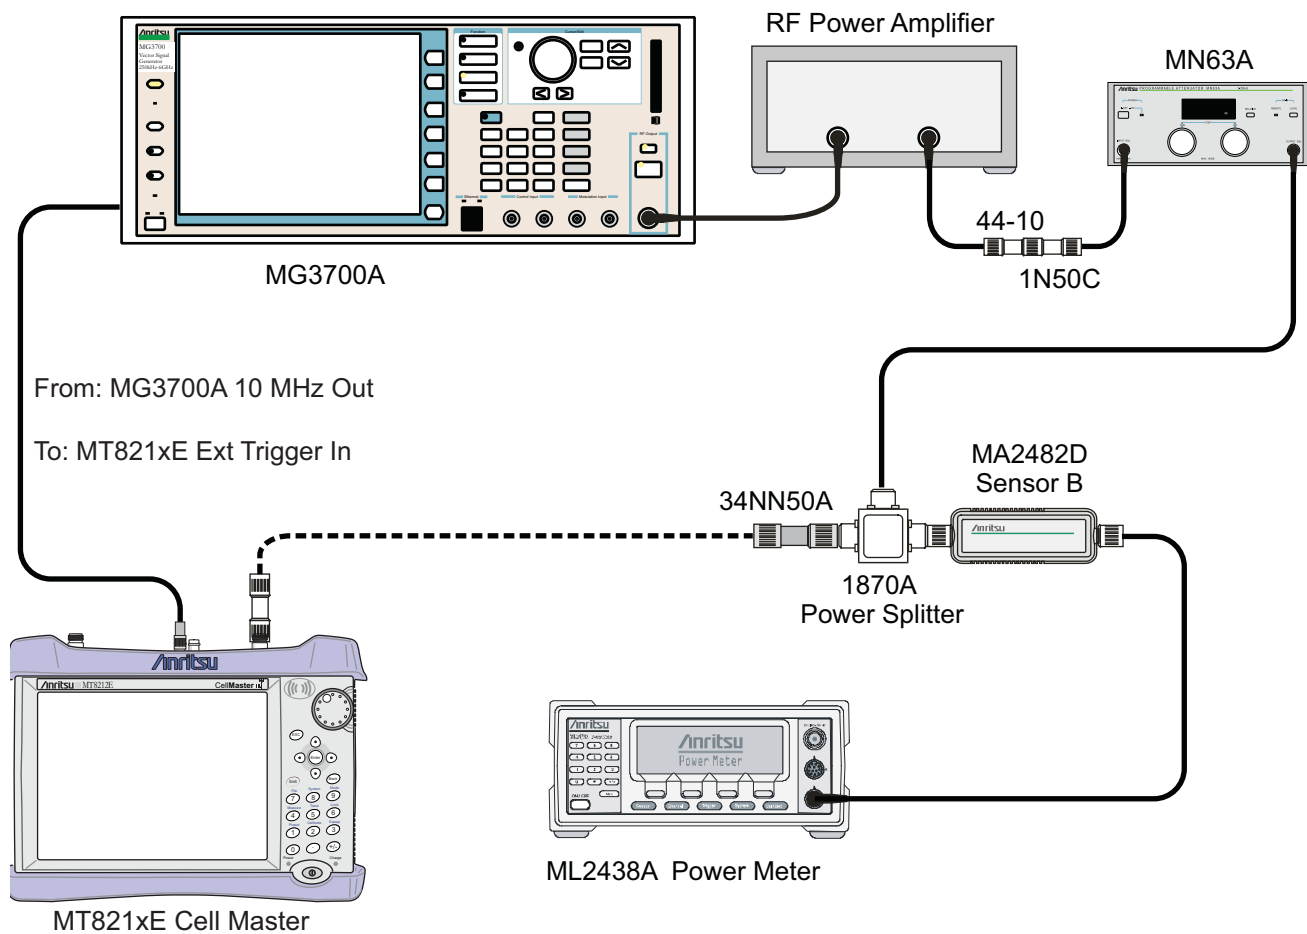

Figure 5-5. ISDB-T SFN Level Accuracy and 1 dB Compression Level Post-test Setup
26. Remove Sensor A from the Power Splitter and then connect the Power Splitter to the MT821xE Spectrum Analyzer RF In with an N male to N male adapter, as shown in Figure 5-5 on page 5-22.